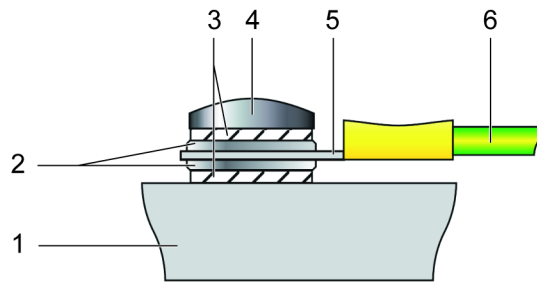

Figure 8: Mounting of the protective earth conductor (profile view)
3. Tighten the screw (together with the safety and flat washers) to affix the cable lug of the protective earth conductor to the protective earth connection (p. Figure 8)